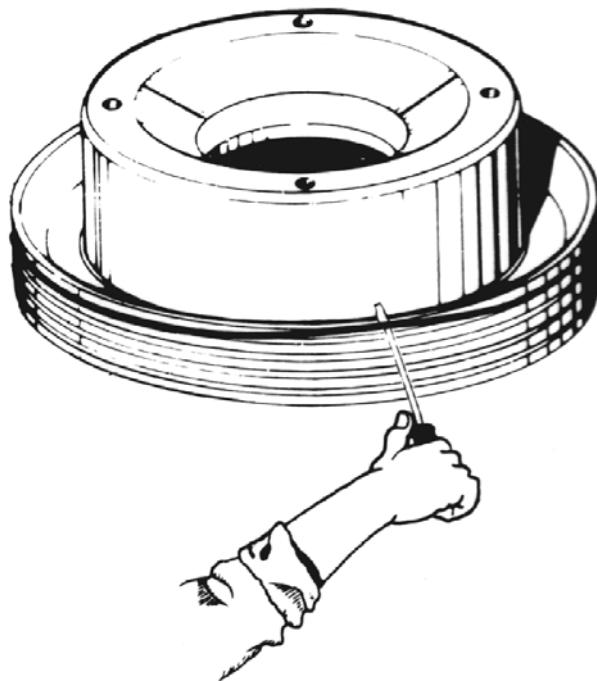

Figure 4-24. Removing Piston Seals
3. Remove the piston ID upper seal A (16) and lower seal #2 (17), and piston OD upper seal #3 (15) and lower seal #1 (15) with a flat, blunt instrument such as a screwdriver (see Figure 4-24).